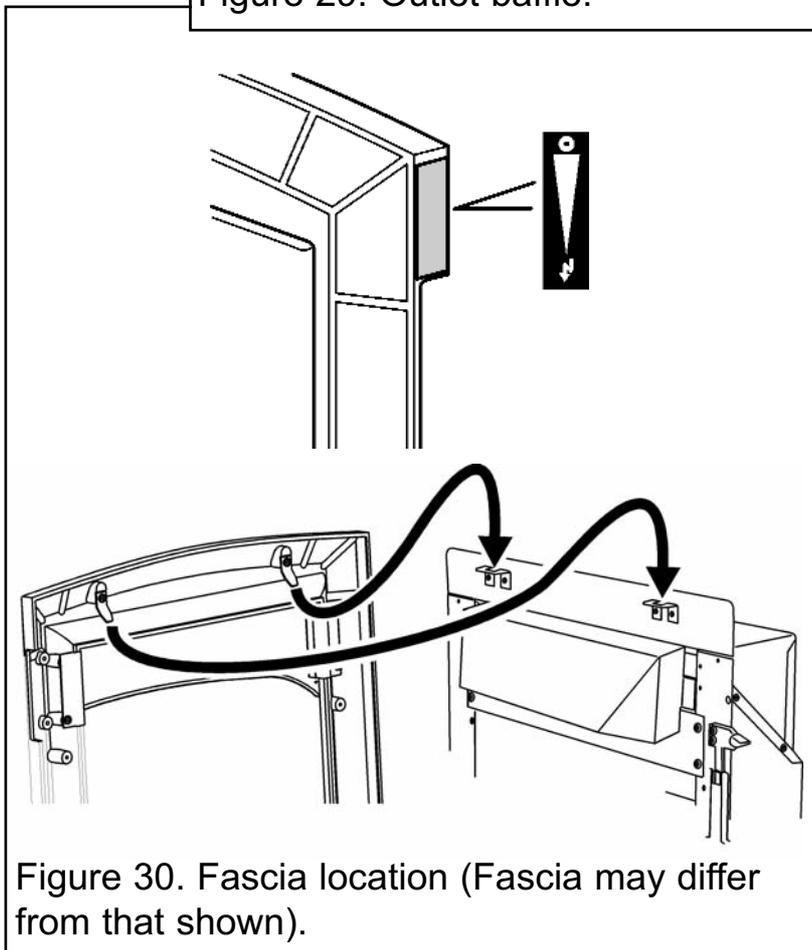

Figure 30. Fascia location (Fascia may differ from that shown).
2. Supplied with the fire is a self adhesive control position label. Peel the backing from the label and place as in figure 30.
3. Place the fascia against the fireplace front surface so that the two retaining plates at the back of the fascia are above the two upper retaining brackets at the top of the convection box. Lower the fascia making sure that the rear retaining plates locate fully into the retaining brackets on the convection box (See figure 30). If the inlet pipe runs along the front of the fireplace, the bottom of the fascia will have to be swung forwards to clear the pipe while lowering the casting.